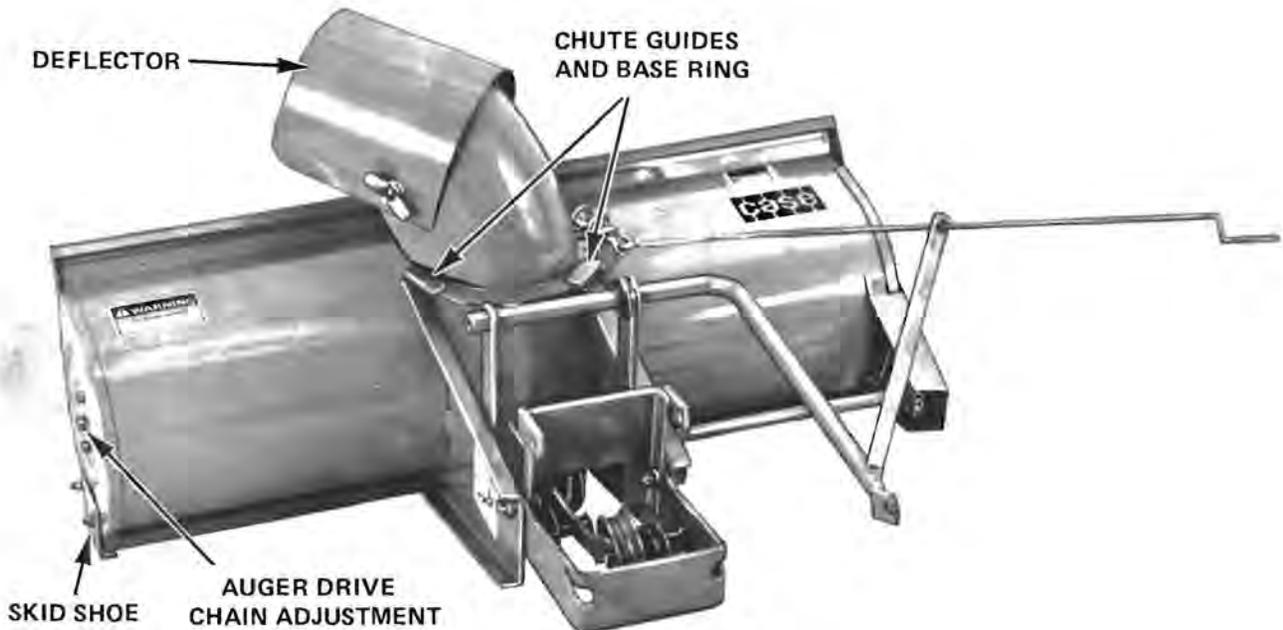

FIGURE 8 Model L-84 Snow Caster
1. Deflector - See Figure 8. The deflector has a slotted hole on each side for adjustment. To change the angle of the deflector, loosen the two locking wing nuts. By angling the deflector upward, the snow will be cast higher and further from the tractor. When angled downward, the deflector will direct the snow closer to the ground and it will be cast a shorter distance. Tighten the locking wing nuts when the deflector is adjusted to the desired angle.
2. Skid Shoes - See Figure 8. Slotted mounting holes are provided to obtain the desired clearance between the base of the auger housing and the surface of the area to be cleared. When operating on a smooth surface such as cement or asphalt, the skid shoes can be set at the lower end of the slots. If operating on a rough surface such as gravel or earth, the skid shoes should be set at the upper end of the slots to prevent foreign material from entering and possibly damaging the snow caster.
Grease the discharge chute control crank, chute guides and the chute base ring. Figure 8, daily to keep the crank turning freely.